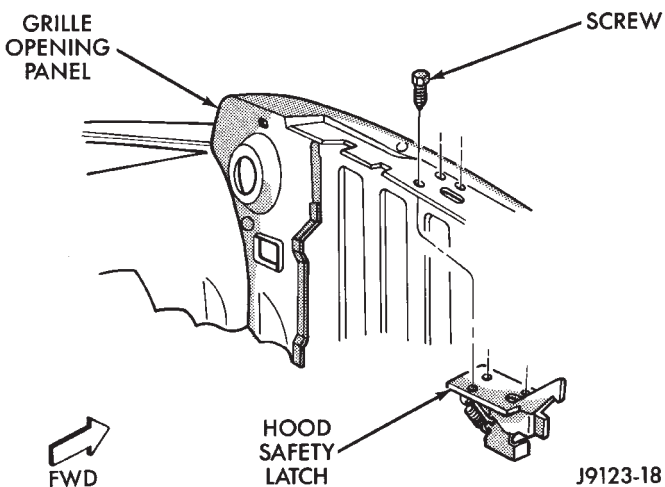

Fig. 14 Hood Safety Latch Removal/Installation
- (1) Raise and support the hood.
- (2) Remove the latch retaining screws from the grille panel (Fig. 14).
- (1) Position the latch on the grille panel (Fig. 14).
- (2) Install the latch retaining screws.
- (3) Remove the support rod and close the hood.